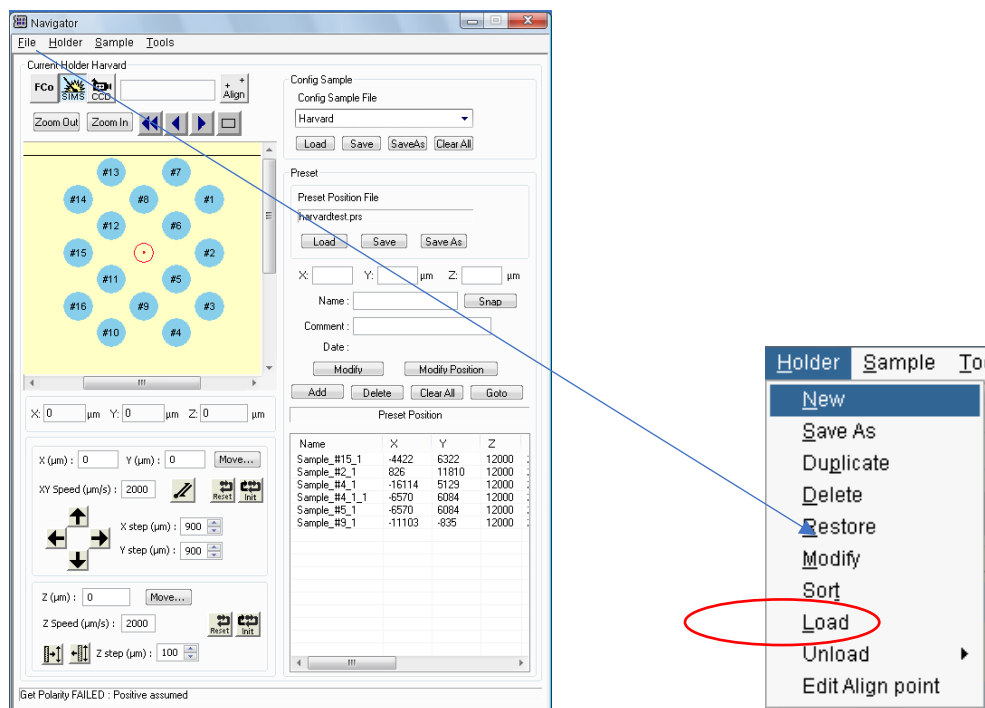

Figure 289: Load a sample with the “Navigator” window
- On the Navigator, click on “Holder” and “Load” (Figure 289).